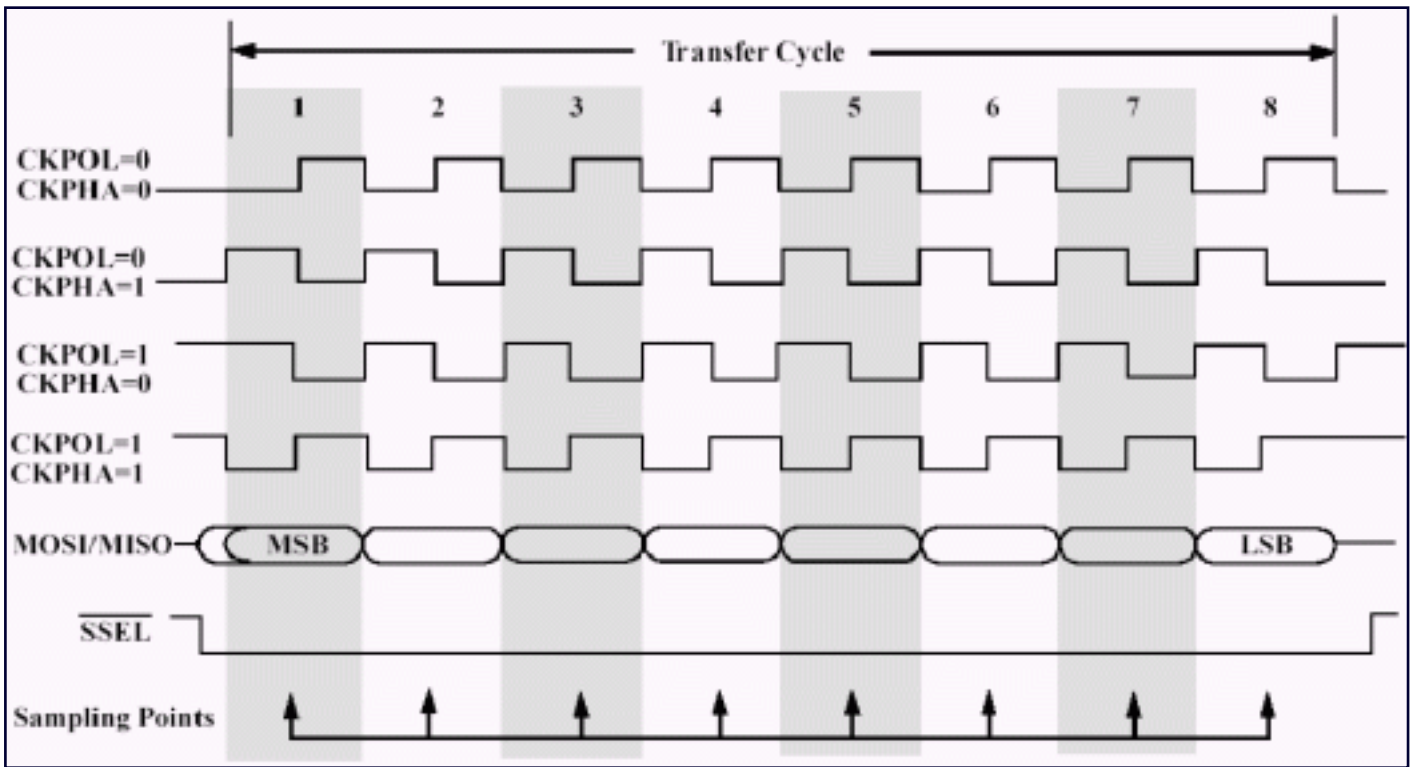

Figure 2. SPI timing diagram.
The four SPI clock (SPI\_CLK) modes supported by this library are defined by CKPHA and CKPOL. The CKPOL bit defines the idle state of the SPI clock, CKPOL = 0 forces SPI\_CLK to idle low, while CKPOL = 1 forces SPI\_CLK to idle high. CKPHA changes the edge used to signal transfer of data. When CKPHA = 0, the first edge of SPI\_CLK specifies when the slave and master should sample their input. With CKPHA = 1, the second edge of SPI\_CLK specifies when to sample. When CKPHA = 1, the master and slave should present their data on their output during the first SPI\_CLK edge. This allows the data sufficient hold time. When CKPHA = 0, data should become valid when the Slave Select (SS) line goes active. Note that most devices require the SS line to be used when CKPHA = 0 to allow proper timing, while SS may be optional when CKPHA = 1. **Figure 2** illustrates this behavior.